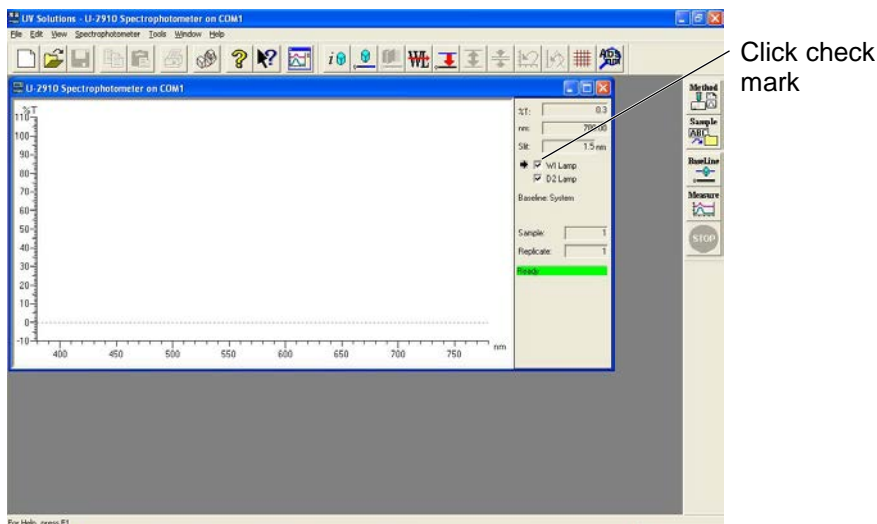

Fig. 5-9
Click the check mark on WI lamp on the screen as shown in Fig. 5-9, then, check mark disappears causing WI lamp to be turned off.
- ② Press the wavelength shift key () to shift to 300 nm. Then, the light source mirror turns to face with D₂ lamp causing the slit to be rayed by an incident light from the D₂ lamp. Open the light source cover, and check that the image of the lamp forms as shown in Fig. 5-9.
Click the WI lamp check box on the screen as shown in Fig. 5-9, then, a check mark appears causing the WI lamp to be turned on.